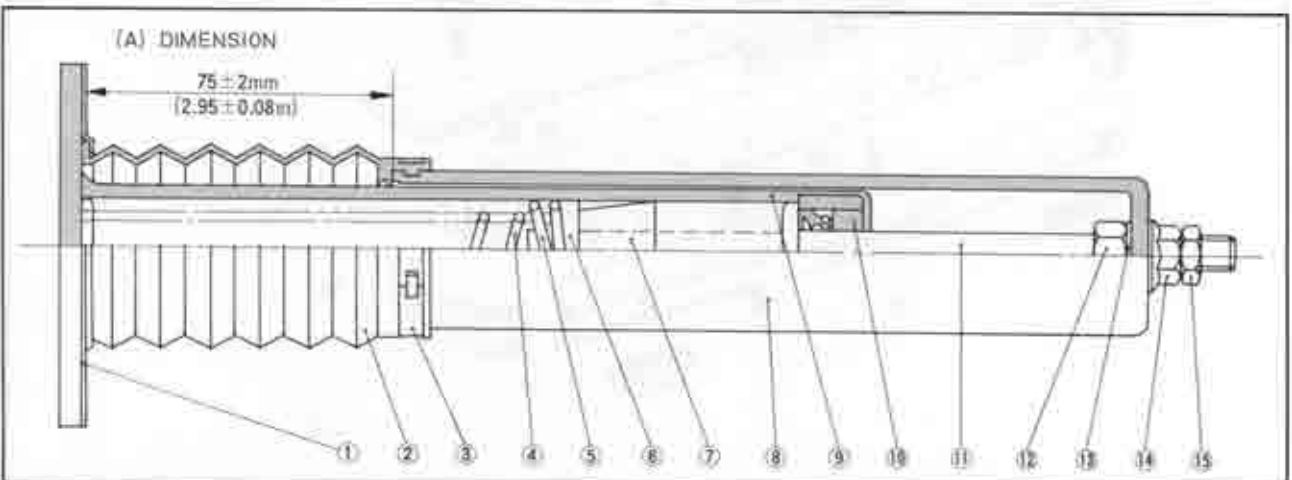

Fig. 14-14 Shock absorber
To check the shock absorber, measure the dimension (A) shown in Fig. 14-14.